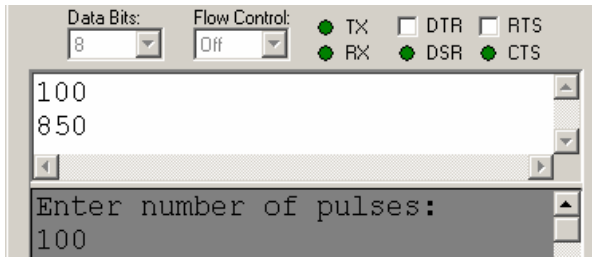

Figure 4-19
Figure 4-19 shows a close-up view of the Transmit Windowpane in the Debug Terminal. Your Transmit Windowpane may be smaller. You can click and drag the separator between the two panes downward to make the Transmit Windowpane larger. You can type characters into the Transmit Windowpane to send them to the BASIC Stamp. In this example, somebody typed in 100, then hit the carriage return, then typed in 850. The Receive Windowpane displays the “Enter number of pulses:” message sent by the BASIC Stamp. It also displays an echo of the characters 100 that were typed into the Transmit Windowpane.
- ✓ If the Transmit Windowpane is too small, resize it using your mouse to click, hold, and drag the separator downward. The separator is shown just above the text message: “Enter number of pulses:” in Figure 4-19.